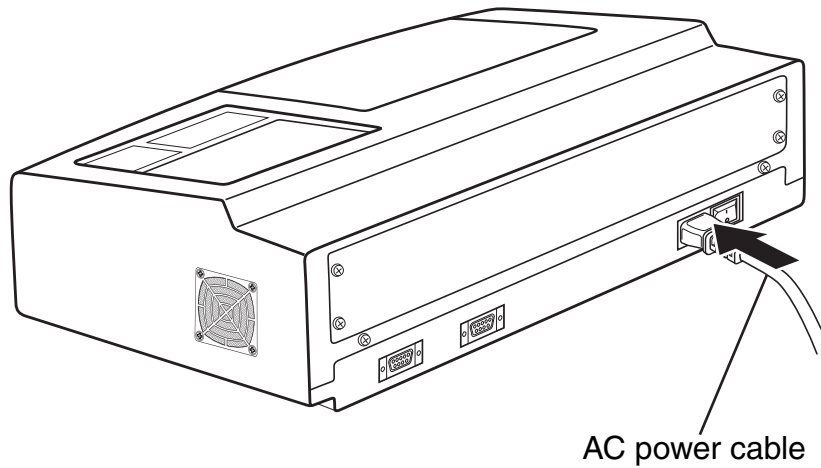

Fig.4-1
(1) Connecting the AC power cable (Fig.4-1)